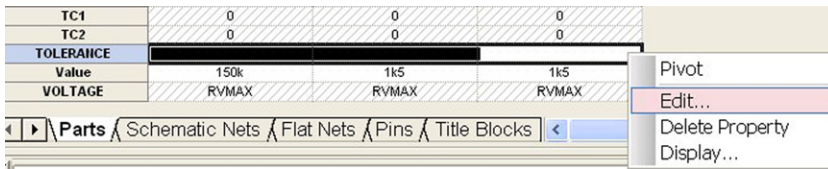
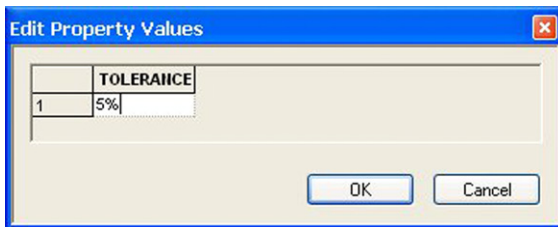

FIGURE 10.5
FIGURE 10.6
2. You need to add a 5% tolerance to all the resistors. Hold down the control key and select the resistors R1, R2 and R3, then **rmb > Edit Properties**. In the **Property Editor** highlight the entire **TOLERANCE** Row (or column) as shown in Figure 10.5 and **rmb > Edit**. In the **Edit Property Values** box (Figure 10.6), type in 5% and click on OK.
3. To display the component tolerances on the schematic, select the entire TOLERANCE row as in Figure 10.5, **rmb > Display** and in **Display Properties** (Figure 10.7), select **Value Only** and click on OK.